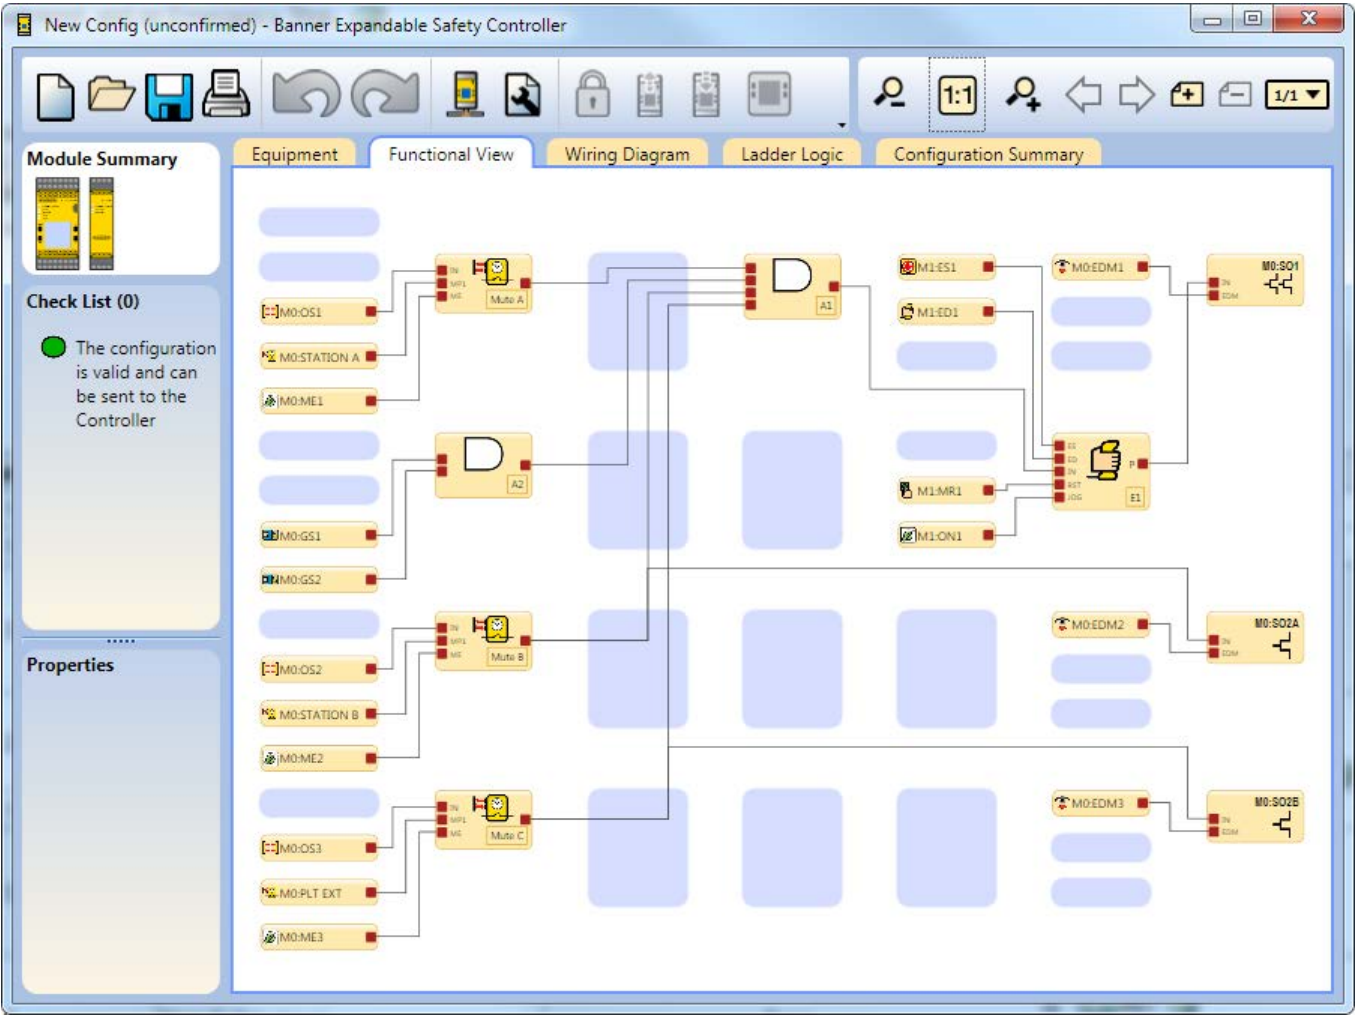

Figure 55. Sample Configuration—Functional View Tab
**Note:** At this point you may want to reposition the blocks in the **Functional View** tab for a better configuration flow (see Figure 55 on p. 73).